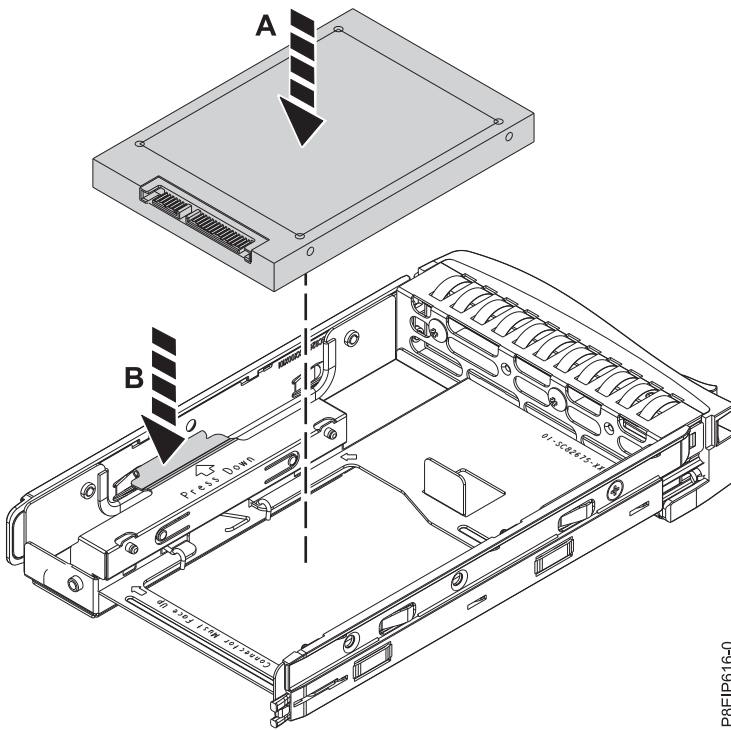

Figure 7. Mounting the 2.5-inch drive in the tray
- b. Open the retention spring (B) as shown in Figure 7 on page 8.
- c. Place the 2.5-inch drive (A) into the tray, aligning the pins with the screw holes in the drive.